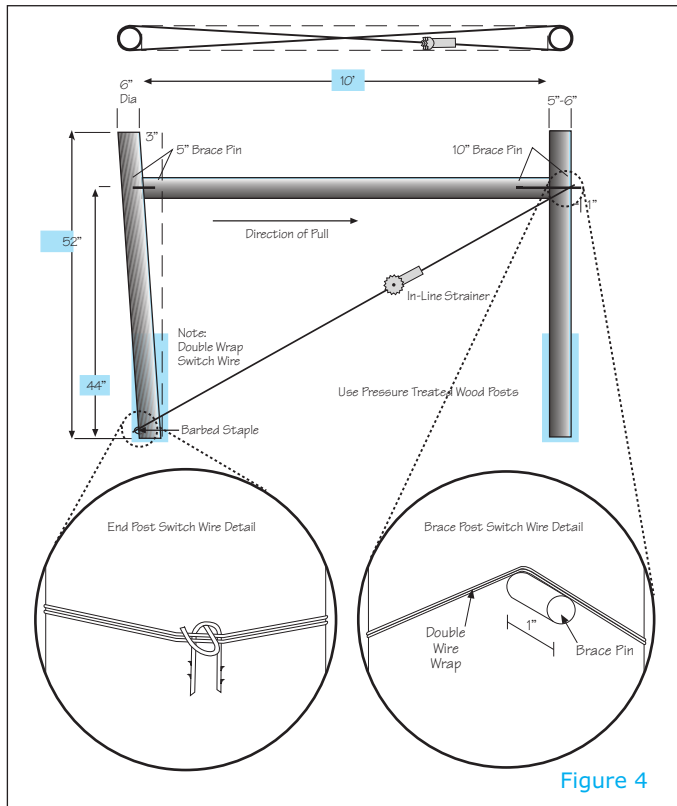

Figure 4
### How to Build a Single "H" Brace (Figure 4)
4. Insert a five inch brace pin into the hole that was previously drilled into the corner/end post. You should have 2 to 3 inches of the pin left sticking out of the post. Install one side of the cross member by sliding the hole in the end over the pin that was left protruding from the corner/end post. Next, slide the cross member into place. Use a hammer to drive the 10 inch brace pin through the hole in the brace post, and into the hole in the cross member. Make sure to leave one inch of the brace pin protruding from of the brace post. (Figure 4)
5. Drive a barbed staple at a downward angle approximately four inches from the ground in the corner/end post. Hang another staple on one leg of this staple to prevent the wire from digging into the post. (Figure 4)
6. Wrap the brace wire two times in a figure 8 pattern around the posts making sure to go over the top of the protruding brace pin, and below the staple at the bottom of the corner/end post. (Figure 4)